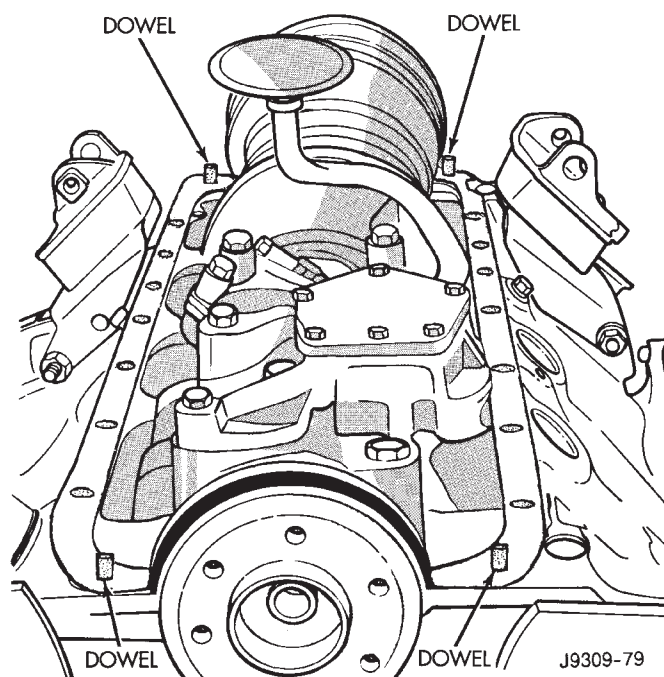

Fig. 2 Position of Dowels in Cylinder Block
(2) Install the dowels in the cylinder block (Fig. 2).
(3) Apply small amount of Mopar Silicone Rubber Adhesive Sealant, or equivalent in the corner of the cap and the cylinder block.
(4) Slide the one-piece gasket over the dowels and onto the block.
(5) Position the oil pan over the dowels and onto the gasket. If equipped with an oil level sensor, take care not to damage the sensor.
(6) Install the oil pan bolts. Tighten the bolts to 24 N•m (215 in. lbs.) torque.